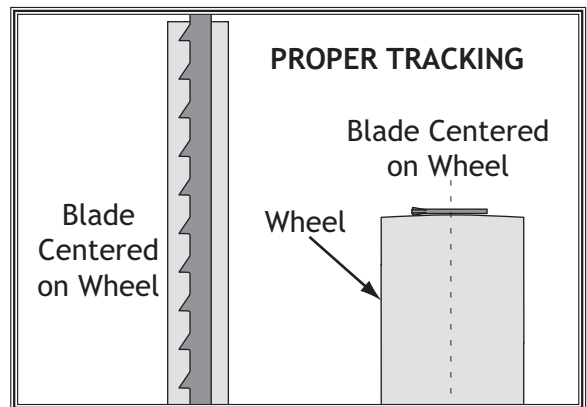

Figure 19. Blade centered on crown of wheel.
Bandsaw wheels are either flat or crowned and both shapes track differently. The W1878 has crowned wheels. As the wheels spin, a properly tracking blade naturally tracks at the center of the wheel (see **Figure 19**).
5. Rotate upper wheel by hand several times and watch how blade rides on wheel (see **Figure 19** on **Page 19** for an illustration of this concept).